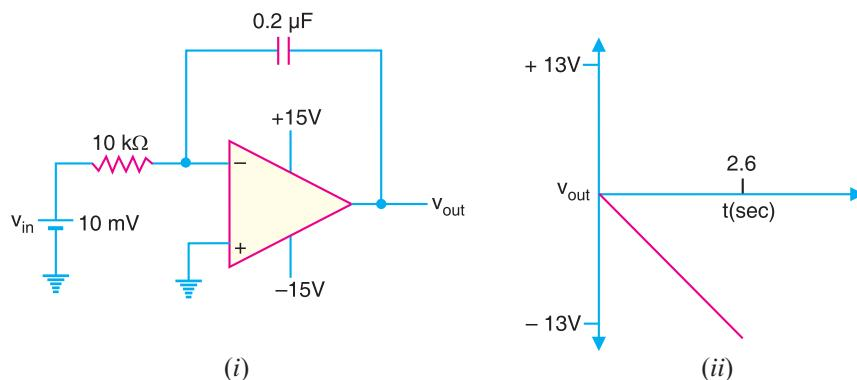

Fig. 25.87
**Example 25.53.** For the integrator circuit shown in Fig. 25.87 (i), how long does it take for the output to reach saturation?